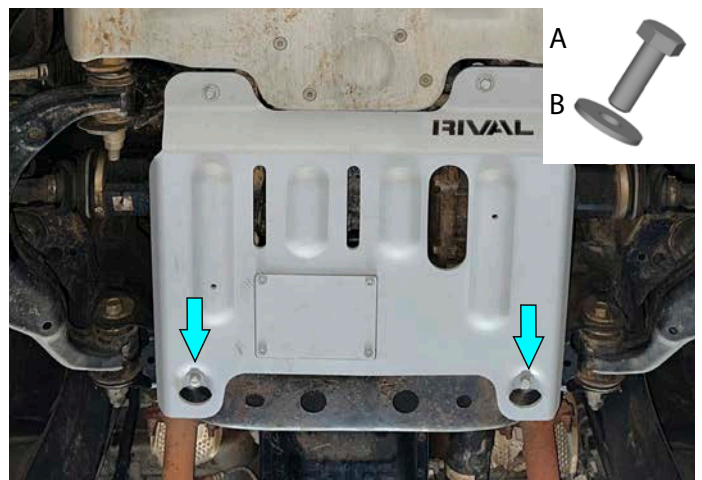

Fig.3
3. Put the rear part of engine skid plate (item 1) on installed bolts M8x30 (item A) and flat washers 8 (item B) from step 2 as shown in fig.3.